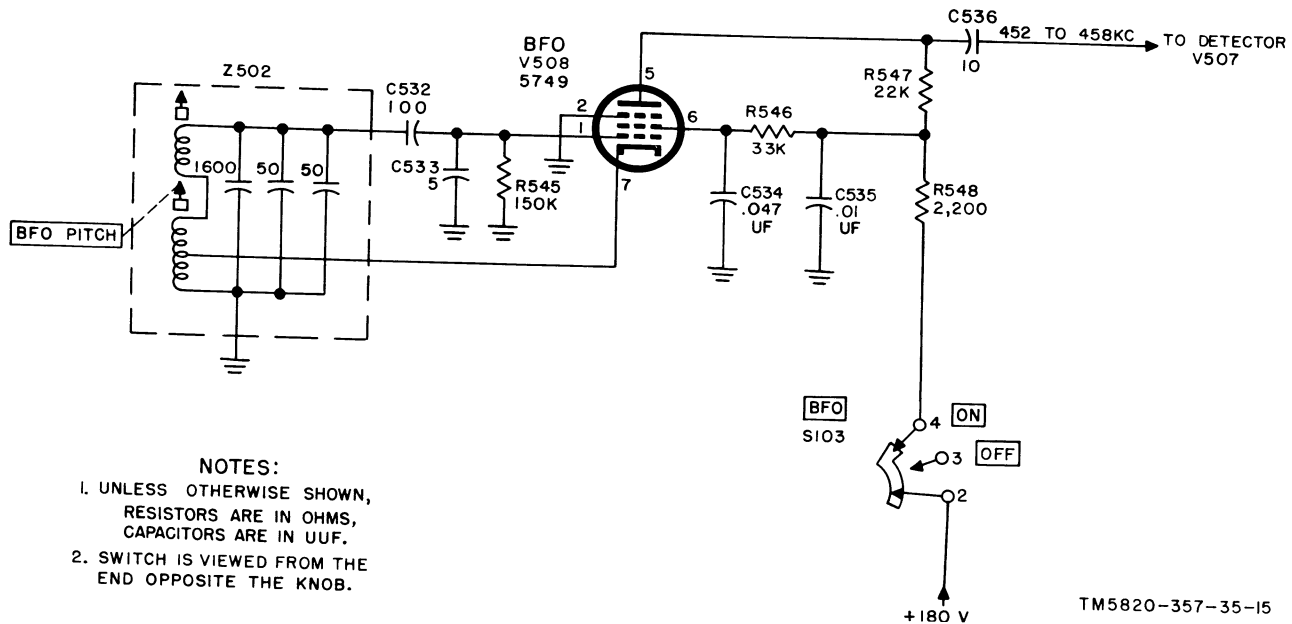

Figure 9. Beat-frequency oscillator, simplified schematic diagram.
21. Beat-Frequency Oscillator V508 (fig. 9)